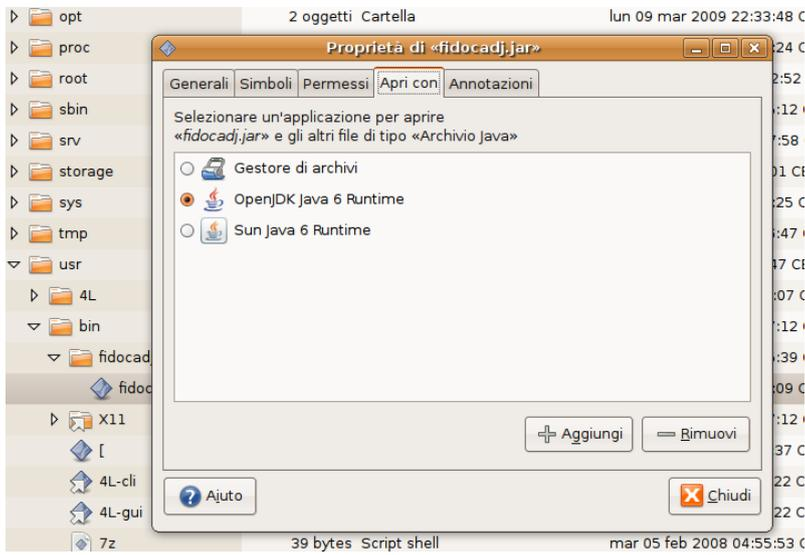

Figure A.2.: Set the execution with the Java virtual machine, on Ubuntu 8.04.
- We can select the tab "Open as" and select "OpenJDK Java 6 Runtime" or "Sun Java 6 Runtime", as it can be seen in figure A.2.